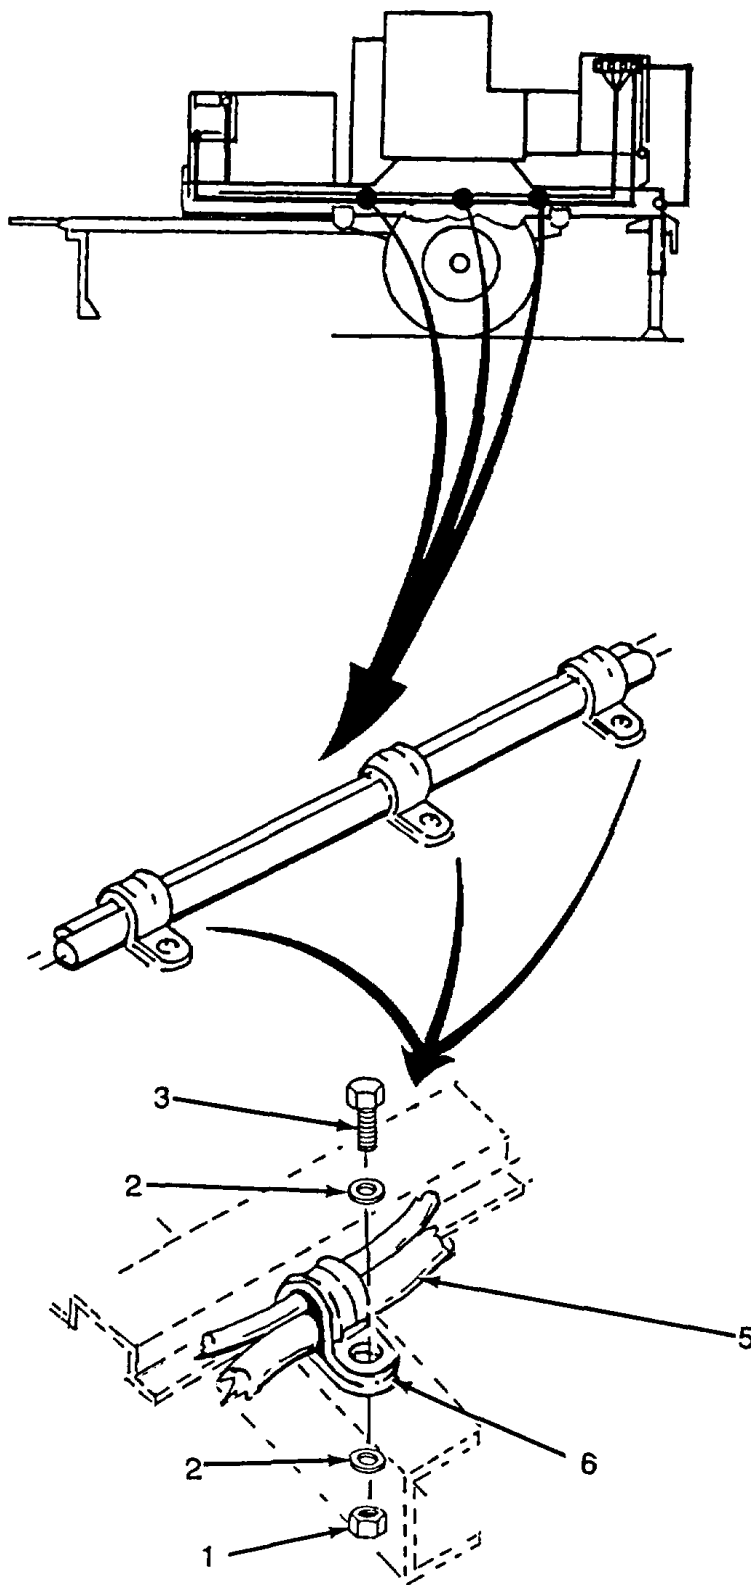

Figure 4-20. Clamps, Cable.
**4-29. CLAMPS, CABLE (Figure 4-20).**